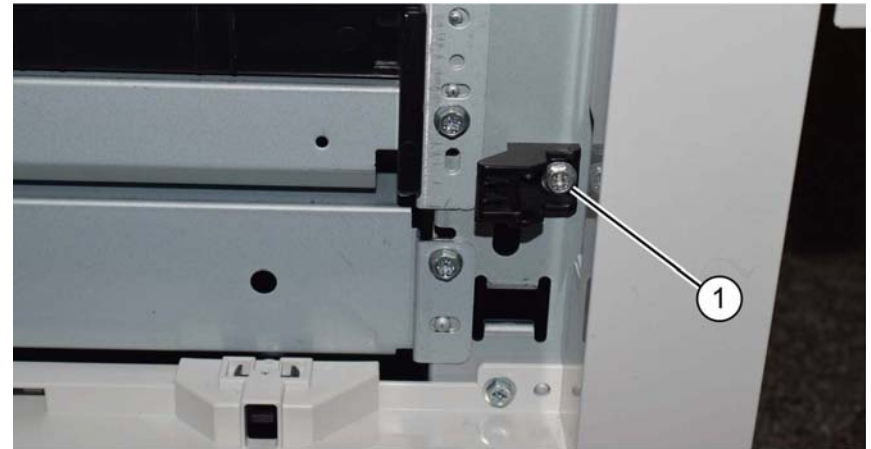

Figure 3 Door catch
6. Remove the lower door catch (1), Figure 3.